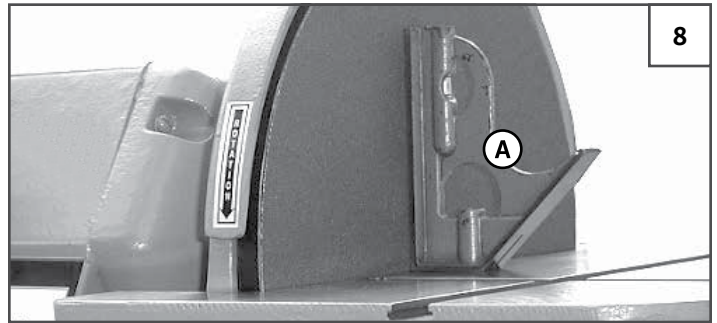

FIGURE 8: SETTING SANDING DISC TABLE ANGLE
2. Place a **COMBINATION SQUARE (A)** on the table against the sanding disc to verify the 90° angle of the table. See Figure 8. *NOTE: The square must not touch the wheel cover, only the sanding disc.*